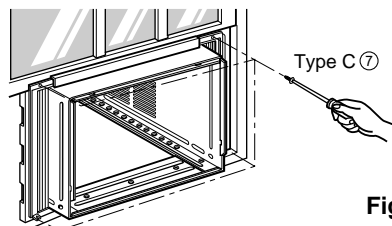

Fig. 6
- 9 Attach each Frame Curtain ① the window sash using screws ⑦ (Type C). (See Fig. 6)